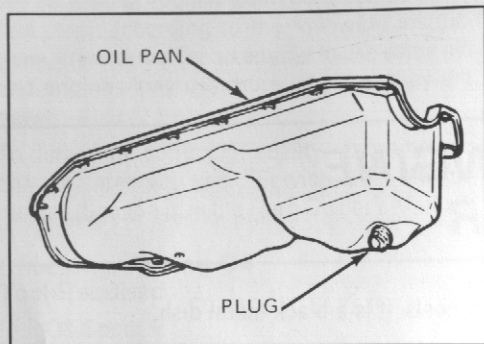

Figure 1 - Oil Pan Plug
1. Locate oil plug on oil pan and position a bucket, or pan, beneath it. See Figure 1.